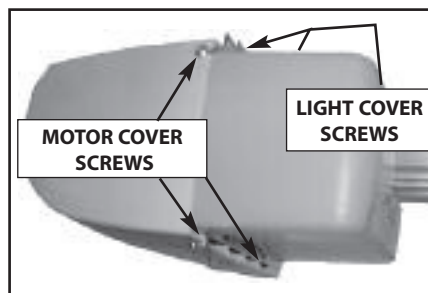

Fig. 1
2. **REMOVE** the 2 upper light cover screws and let light cover flip down. **FIG 1**
3. **LOOSEN** but do not remove the 4 motor cover screws and remove motor cover. **FIG 1**